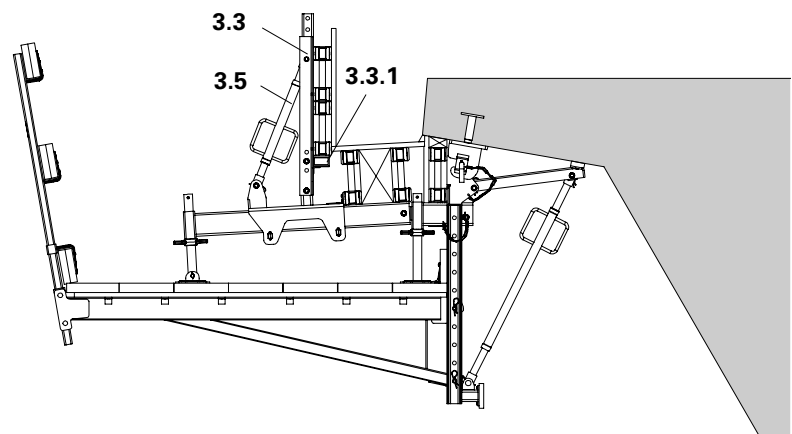

Fig. B3.04
2. Align Formwork Post (3.3) with Kicker AV 81 (3.5). (Fig. B3.04)